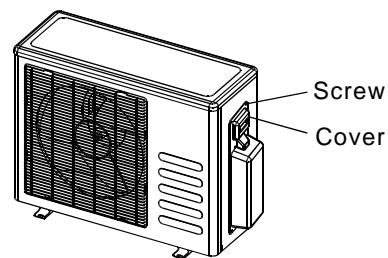

Fig.53
- Remove the electrical control board cover from the outdoor unit by loosening the screw as shown in Fig.53.